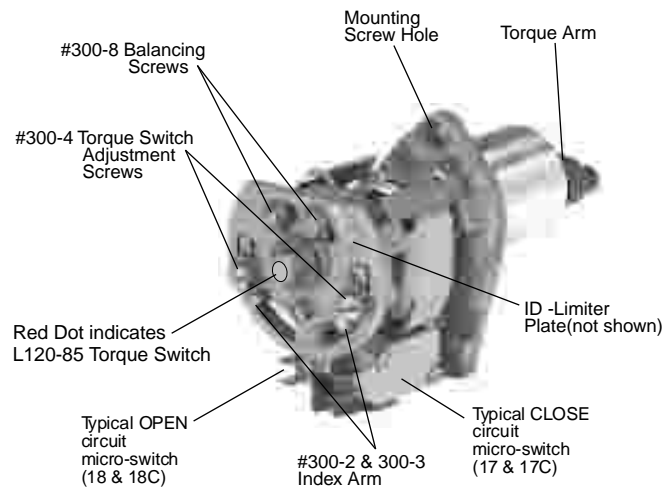

Figure 21 - Torque Switch Components
The L120-85 unit is equipped with a double-acting Torque Switch that has been factory pre-set according to the required torque value provided by the valve manufacturer or other associated equipment supplier. Further Torque Switch adjustment *should not* be required; however, the Torque Switch can be re-set from positions 1 through 5 (5 being the highest input torque requirement) by adjusting the Torque Switch Adjustment Screws unless it is limited by the Limiter Plate. See figure 21 for Torque Switch nomenclature.
3. Loosen Torque Switch Adjustment Screws #300-4 and position both Index Arms #300-2 and #300-3 at the 1 setting; re-tighten the Torque Switch Adjustment Screws . Make sure the Index Marks are aligned. See figure 21.
2. Reverse the OPEN and CLOSE Torque Switch labels on the ID Limiter Plate . See figure 21.